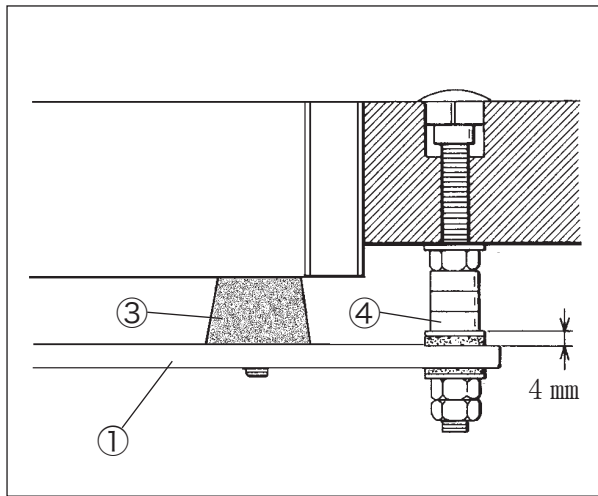

Fig. 2-2
Install a machine correctly referring to Figs. 2-2 and 2-3. Set the screws ② in the supporting board ① and cover the screws ② with the rubber cushions ③. Fix the the supporting board ① to the machine table and install a machine securely on the rubber cushions ③.